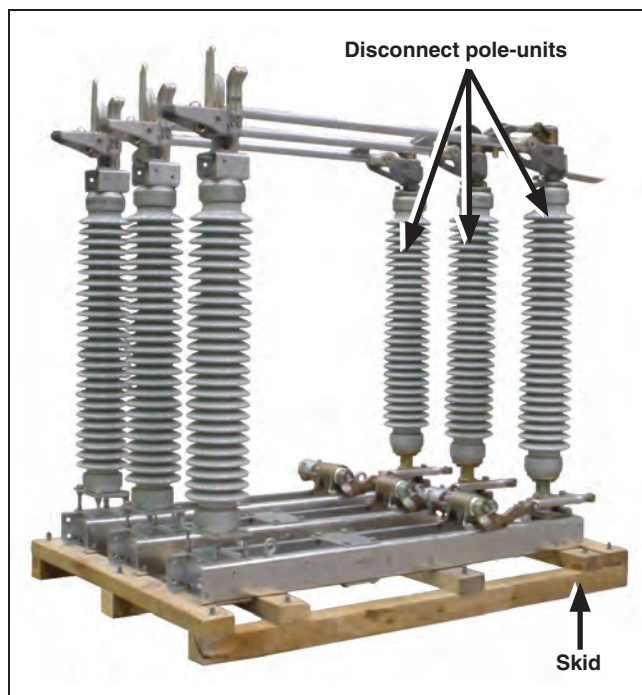

Figure 1. Remove all packing materials from the disconnect pole-units. Do not unbolt the disconnects from the skid until lifting slings are attached.
- STEP 2.** Before removing the disconnect pole-units from the skid, arrange the skid on a level surface, in the position and order in which they will be raised onto the cross base, as shown on the associated reference drawing (RD).
- STEP 3.** Unbolt the wooden cross braces securing the disconnect pole-units to each other. Do not unbolt the disconnect pole-units from the base of the shipping skid at this time. See Figure 1.